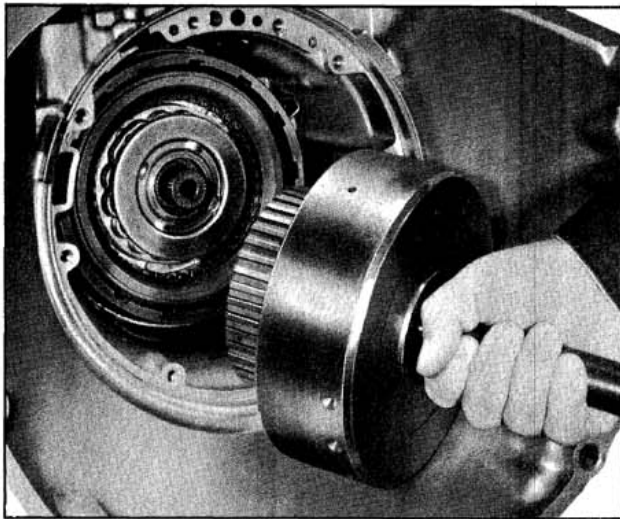

Fig. 6-58 Removing Forward Clutch Assembly
4. Remove forward clutch assembly and turbine shaft from transmission. (Fig. 6-58)